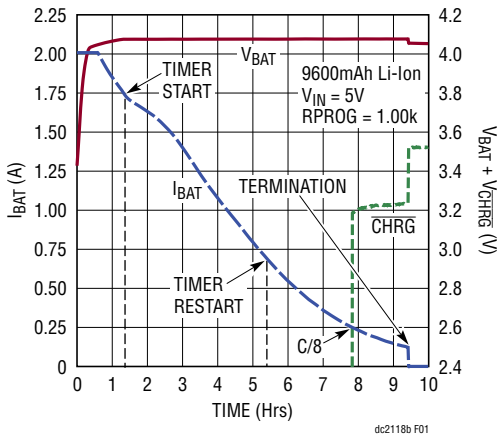

Figure 1. Typical Battery Charge Cycle
- The  $\overline{\text{CHRG}}$  LED will toggle off when the charge current has dropped below 250mA. The timer will continue to run and charging will continue until the timer period ends. Multiple timer periods may be necessary to fully charge a large capacity battery, such as the one used to obtain Figure 1.